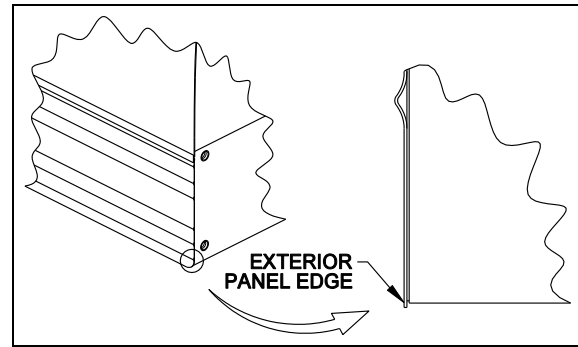

FIGURE 7 : EXTERIOR PANEL EDGE
3. Support each end of the slide-out with height adjustable tables. Use plywood panels covered with soft material, such as carpet, to prevent any damage to the slide-out under panels and the exterior panel edge (figure 7). The supporting tables should not obstruct the slide-out bottom racks. Rise up the tables to support the slide-out without lifting it.